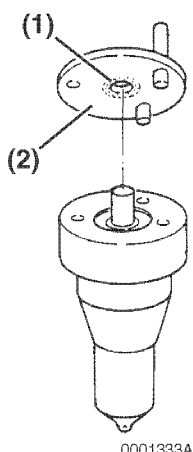

Figure 7-33
6. Inspect the sealing surfaces (**Figure 7-33, (2)**) between the valve stop spacer and nozzle body for nicks or scratches. Check the contact area between the valve stop spacer and the nozzle valve (**Figure 7-33, (1)**) for scoring or pitting. Use a magnifying glass to inspect.